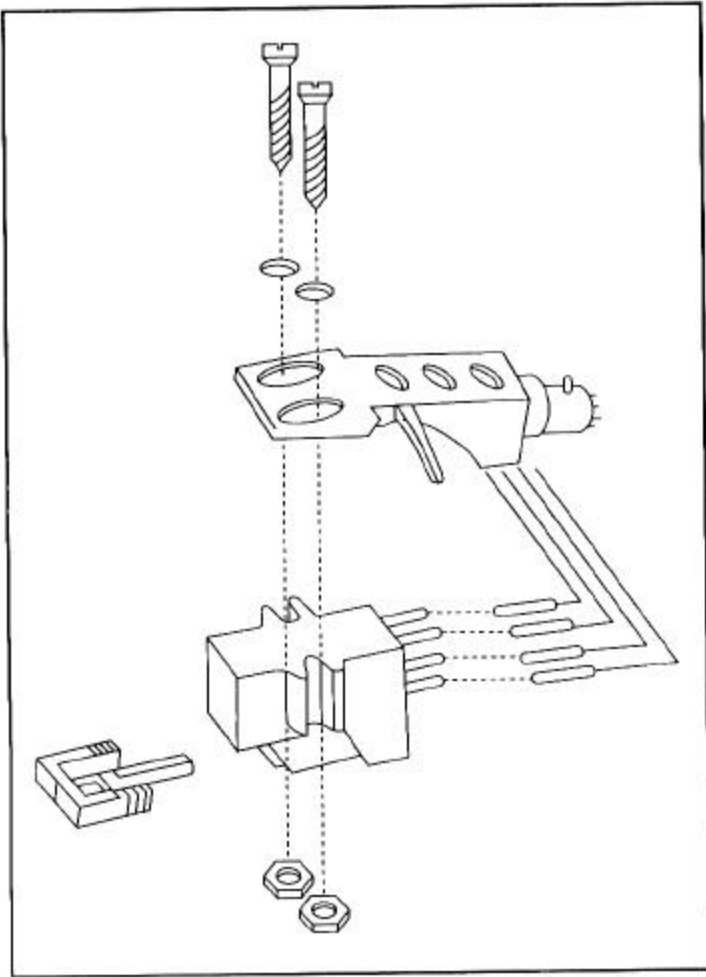

Figure 2
B. CARTRIDGE INSTALLATION (See Fig. 2)